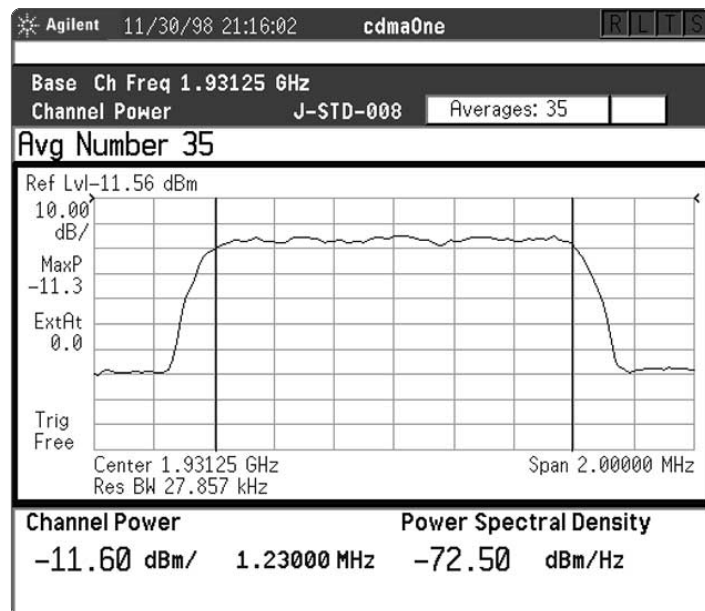

Figure 19. 35 averages
2. Change the number of averages to 35 (Figure 19)	[35] [Enter]